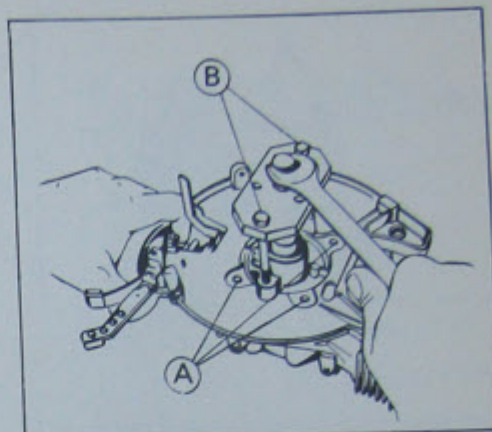

Fig. 54 Air shroud base disassembly using tool K/1
Remove external parts (air shroud, flywheel, ignition system), then unscrew the 4 screws fixing the base (see A in Fig. 54). On silent engines the air shroud base cannot be easily removed as it is fixed by the ball bearing.
- For removing use the tool K/1 with the relevant bolts (see B in Fig. 54).
- Screw fixing bolts «B» in an equal number of turns (Fig. 54).